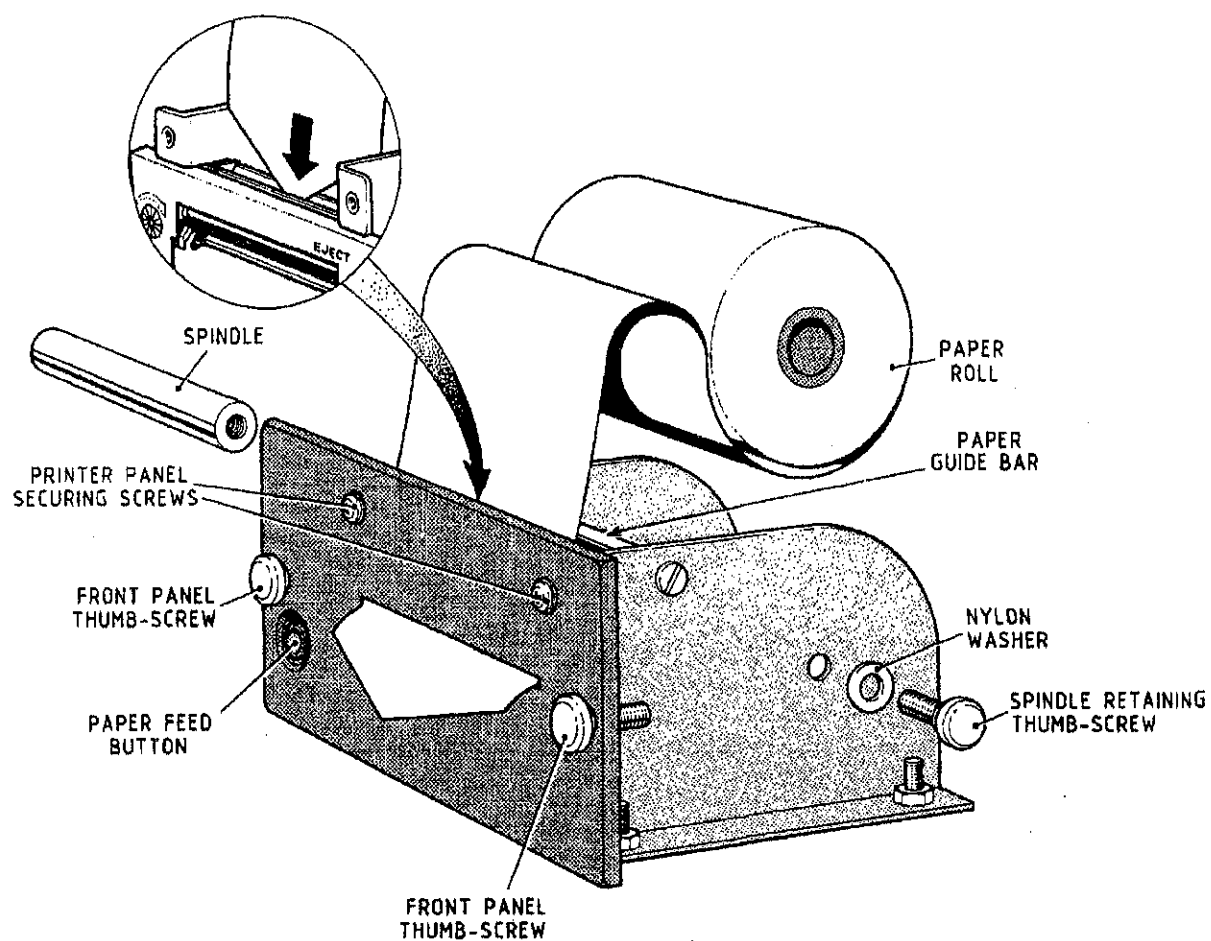

Fig 1 Paper Roll Replacement
- 11.6 Prepare the new paper roll by cutting a shallow "arrowhead" at the leading edge as shown in Fig 1.
12.2 Release the ticket printer from the RIU by unscrewing the two front panel knurled thumb-screws (Fig 1).
12.4 Remove the two printer panel securing screws (posidrive) and washers from the printer front panel (Fig 1).